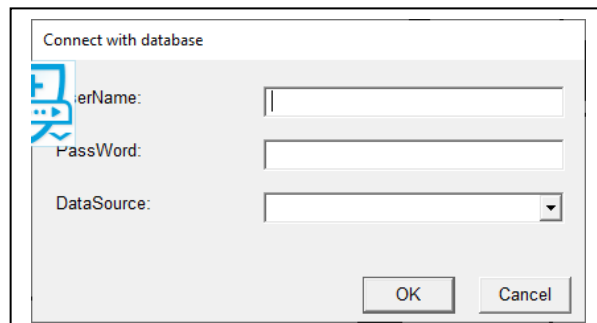

Figure 5.4.1
1. When BRUTIS is not connected to a database a dialog will appear as depicted in figure 5.4.1. In this dialog the user specifies the Data Source Name, and username/password if needed, and clicks on **OK**.